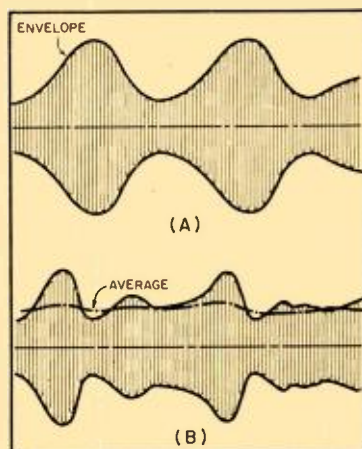

Fig. 1. Comparison between envelope type of detector (A) and average-type (B), showing output voltage obtained from each.
The essential principle of linear detection is that in a diode rectifier circuit with a capacitive load, the direct voltage developed across the capacitor is equal to the peak value of the input alternating voltage. There are two distinct types of linear rectifiers: one responds to the envelope of a wave form, as at (A) in Fig. 1, and the other responds to the average of the rectified wave pulses of one polarity, as at (B). Any linear rectifier is a compromise of the two types, but may approach one or the other type as a limit. Since the efficiency of the envelope type is nearly unity, it is preferable to the low efficiency of the averaging rectifier. Only the former will be considered here. For use in a linear rectifier of the envelope type, the ideal diode has zero impedance to current in one direction and zero admittance in the other direction. The interelectrode capacitance of the diode does not affect the linearity of detection, but does affect the carrier frequency current design.